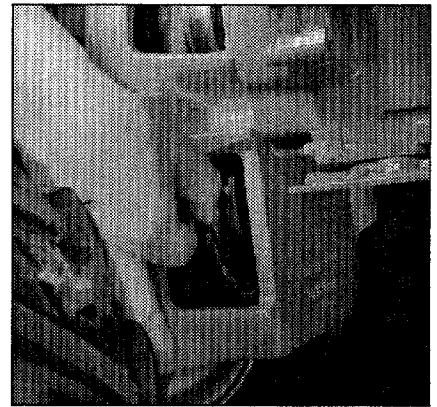

Figure 5-17: First move belt off the lower pulley.
3. Use your right hand to move the belt down and away from the lower pulley, in the direction of the engine (Figure 5-17).